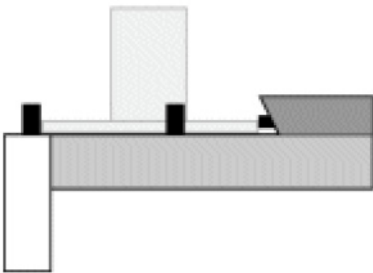

Figure 5-9: Cartridge inserted between plunger and front pins.
12. Push the cartridge against the plunger and then set it down gently on the lens so its positioned between the plunger and the two front pins (Figure 5-9).